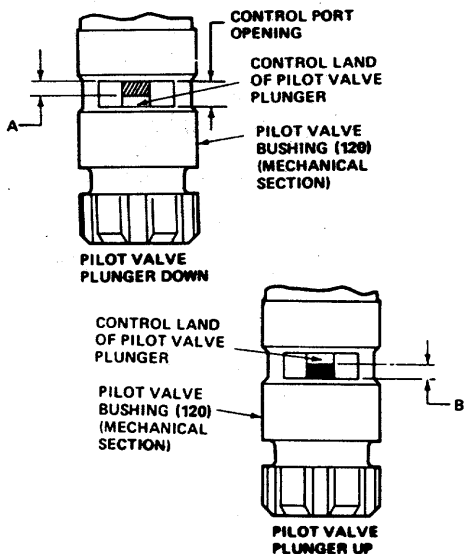

Figure 12-23. Centering Pilot Valve Plunger
(19) Check centering of pilot valve plunger (121) by holding the pilot valve bushing (120) with one hand and pushing on the ball arm flyweight (90) toes with the other to lower the pilot valve plunger (121) as far as possible. Check distance "A" in figure 12-23. Pivot flyweights out as far as possible and check distance "B". Distance "A" must equal distance "B" when